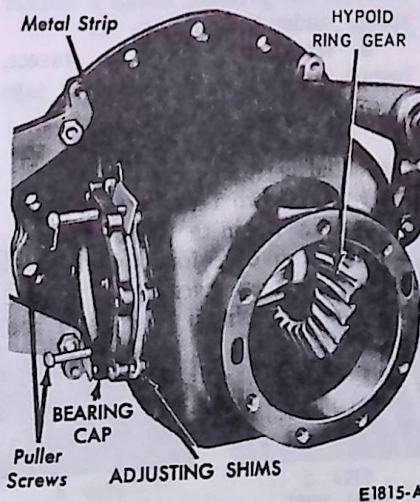

FIG. 13 Removing Cross Shaft
cross shaft. Then remove the bolts that hold the cross shaft bearing cap (Fig. 13) in the differential carrier on the side opposite the hypoid ring gear.
15. Position metal strips under both puller screw holes in the bearing cap. Then thread the puller screws into the cap (Fig. 13) so that they hold the strips in place against the adjusting shims. Do not tighten the screws directly onto the adjusting shims.